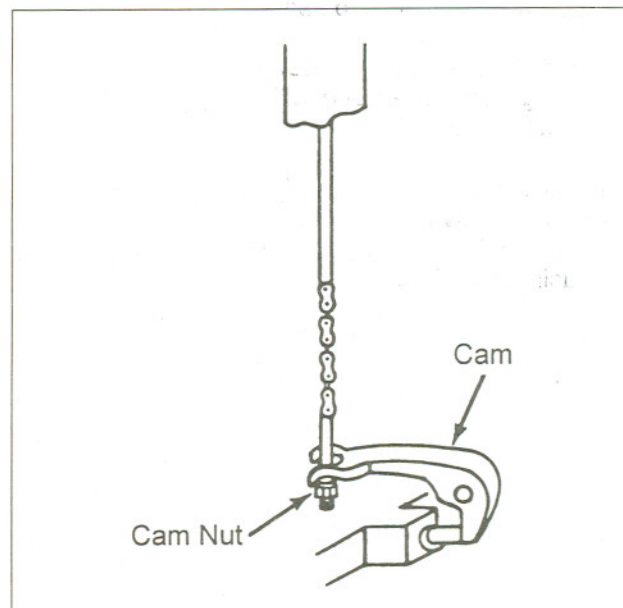

Fig. 6
2. Turn the cam nut while pumping the handle, Figure 6.